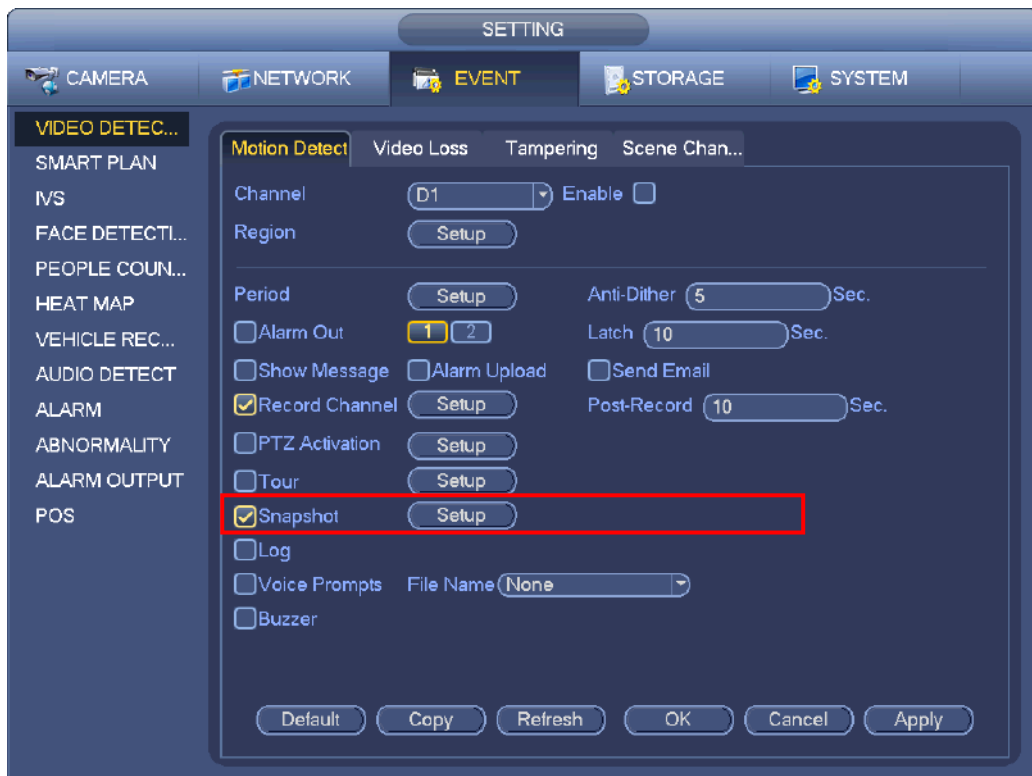

Figure 4-35
- When the record type is MD (motion detect), alarm, MD&Alarm, IVS and POS, please enable the channel snapshot function when corresponding alarm occurs. For example, when the alarm type is MD, from main menu->Setting->Event->Video Detect->Motion Detect, please select the snapshot channel and enable snapshot function. See Figure 4-35.